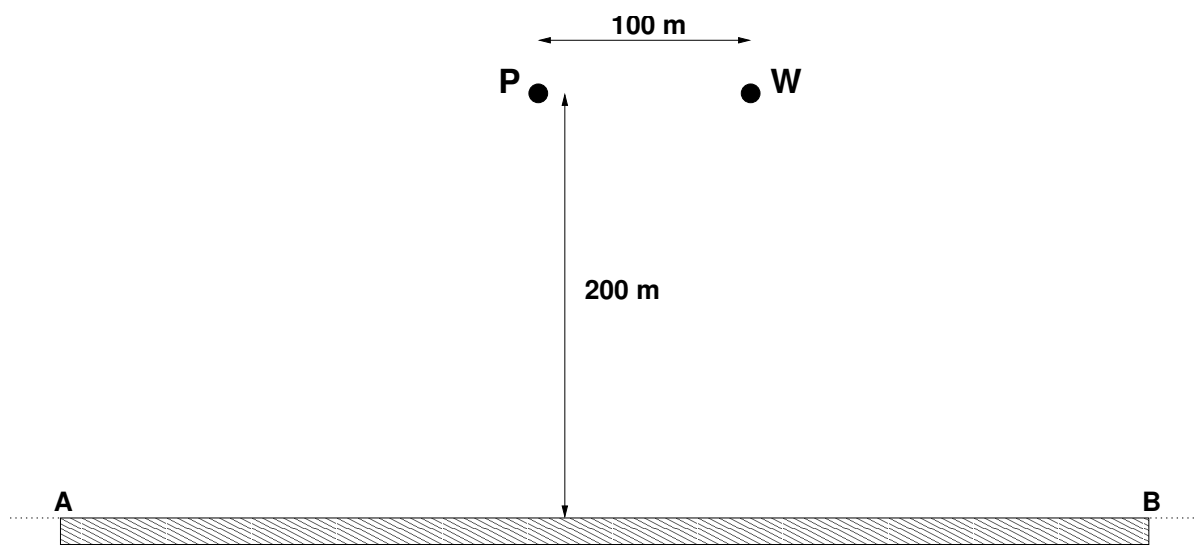

Figure 8: Exercise 9.
9. From well P of Figure 8 a flow rate of 10 m³/day is extracted from a confined homogeneous and isotropic aquifer characterized by a thickness $B = 20$ m, a hydraulic conductivity $K=500$ cm/day and a specific elastic storage $S_s = 5 \times 10^{-6} \text{ m}^{-1}$.